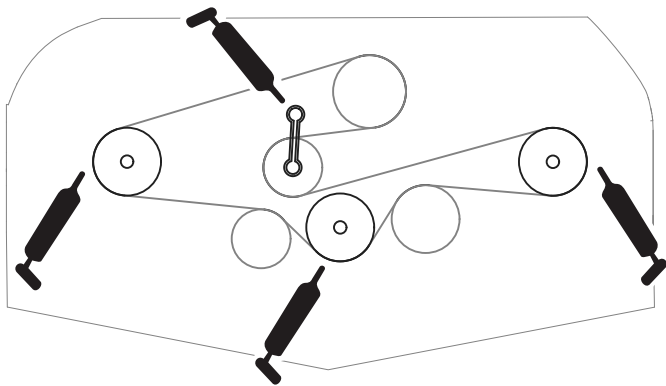

Figure 16
- Spindle shaft bearings (3—located under the pulley) (Figure 16)
- Idler arm shaft bearings (Figure 16)